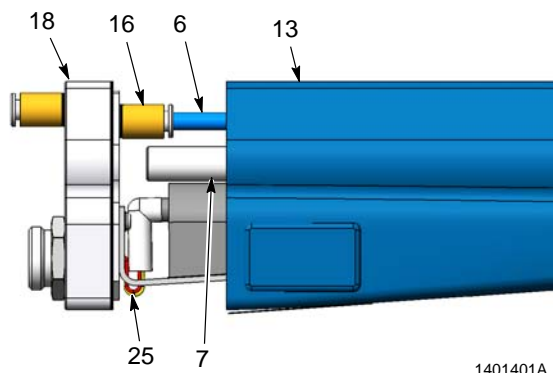

Figure 4 Pulling Heat Sink away from Housing
6. See Figure 4. Pull the heat sink (18) away from the housing (13) until stopped by the air tubing (6). Disconnect the air tubing from the internal connector (16).